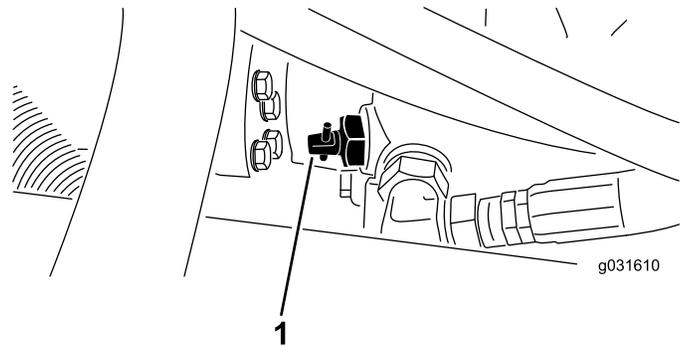

Figure 25
1. Locate the bypass valve on the pump (Figure 25) and loosen it by rotating 90° (1/4 of a turn).